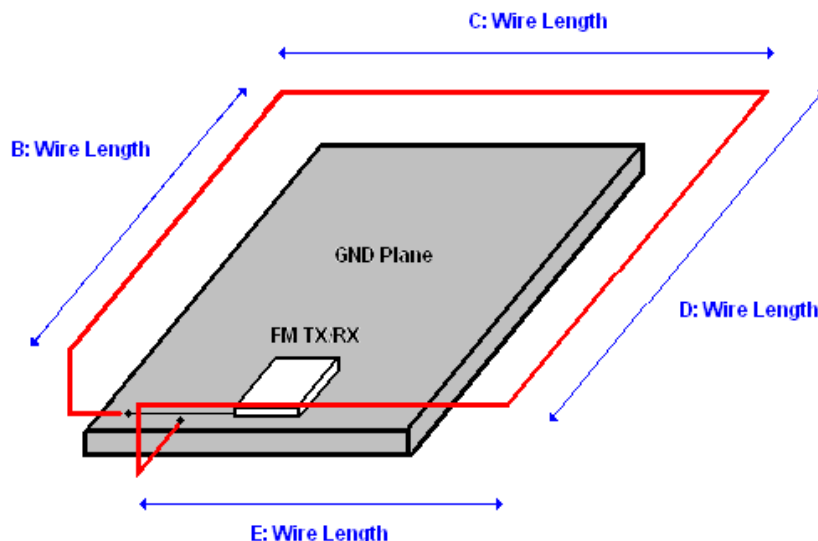

Figure 6. Rectangular Loop (Wire) Antenna - Orthogonal View
- Route the antenna as shown in Figure 6.